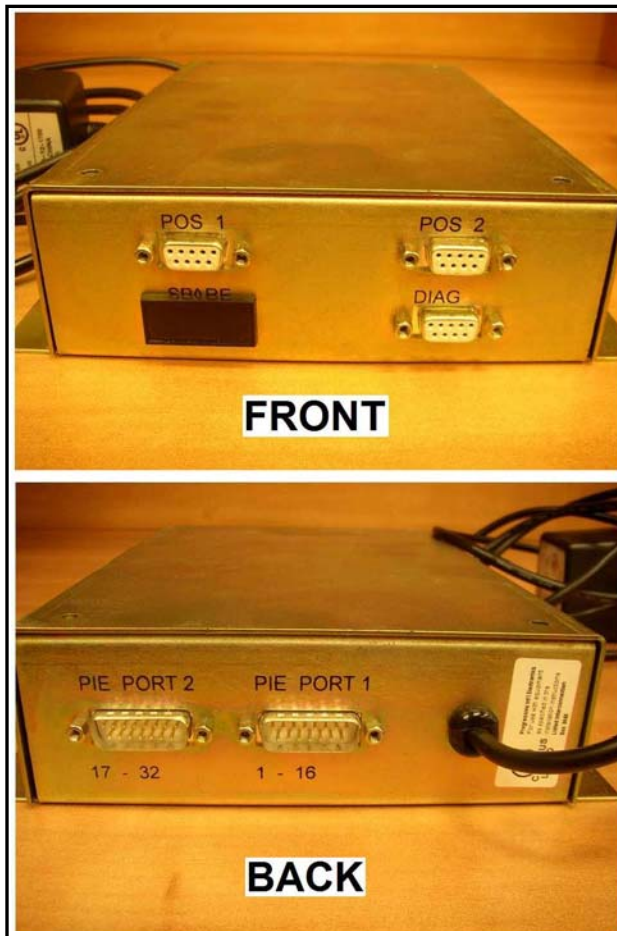

Fig. H-4. PIE PCXZ Controller
6. Controller (Figure H-4, also referred to as PCXZ). Receives inputs from the FMU, and sends outputs to Configurator. All Controllers are identical in appearance, but use different firmware for different applications. Requires 115VAC outlet.